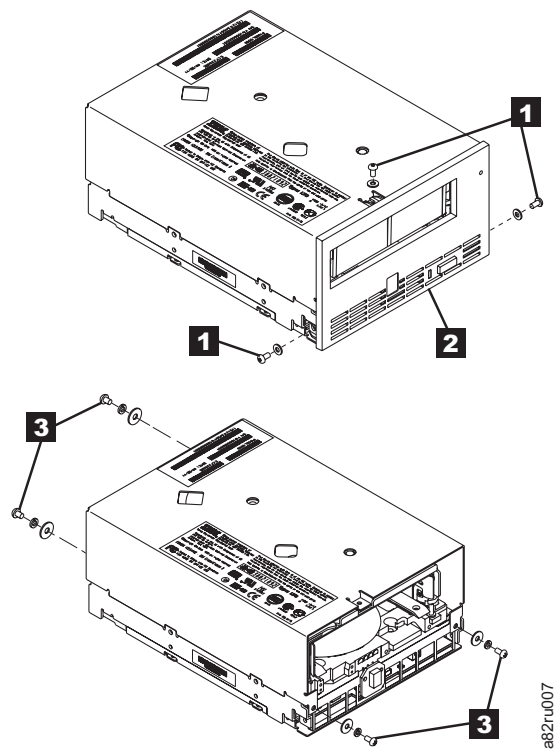

Figure 165. Removing the cover from the internal drive
- a. Using a Phillips screwdriver, remove the three screws and washers (see **1** in Figure 165) that secure the bezel **2** to the internal drive, then remove the bezel.